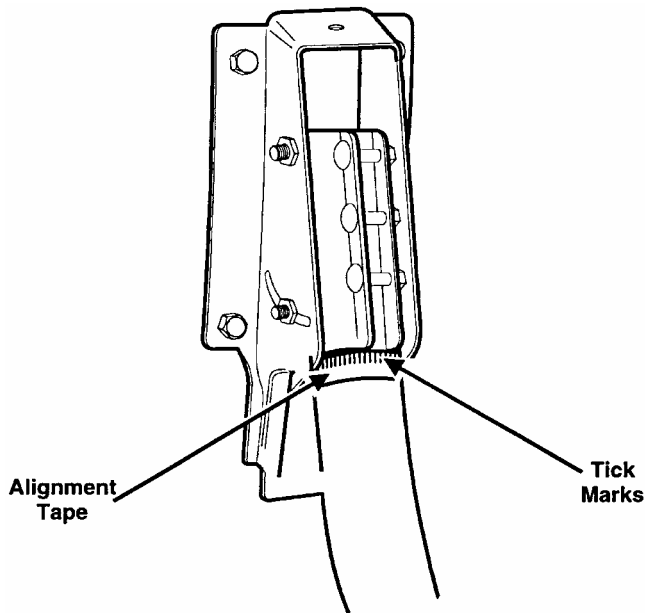

FIGURE 6-30 How you adjust the azimuth with the alignment tape markings.
- 3 Very carefully turn the dish left or right on a tick mark of the alignment tape and pause. See Fig. 6-30.